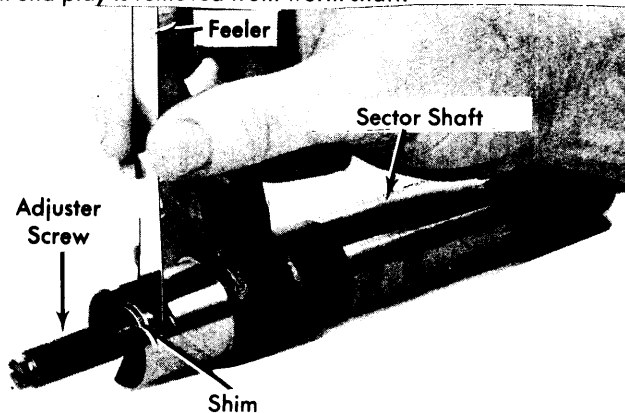

Fig. 12 Checking Lash Adjuster Clearance
3) With all models, position lash adjuster (with shim) in slotted end of sector shaft. Check end clearance which should not be more than .002" (see Fig. 12). If clearance is greater than .002", a steering gear lash adjuster shim kit is available.